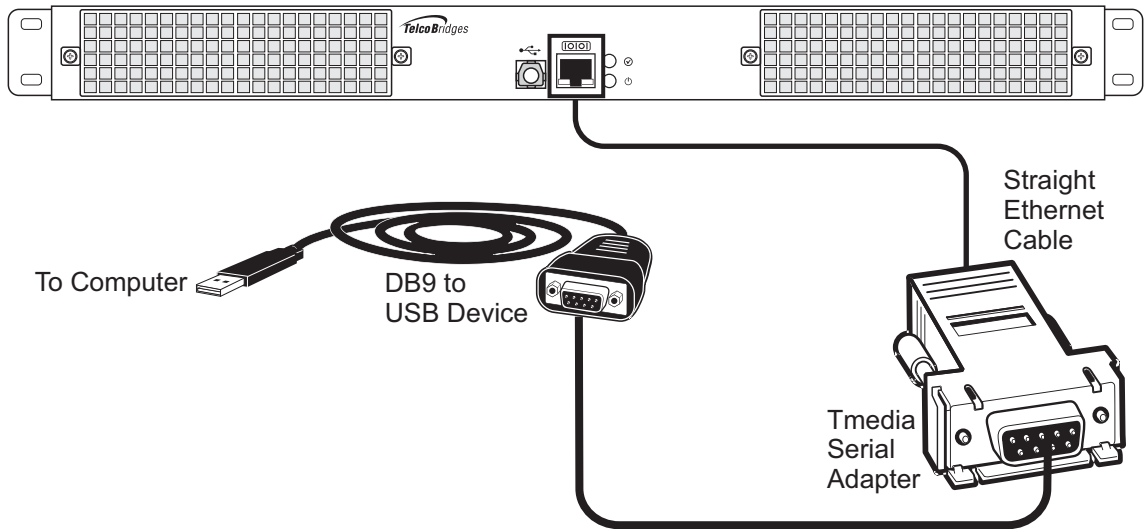

Figure 3.3 Conceptual View of a Serial Connection from the 3200 Series Gateway to a Computer
2. If your computer's serial port features a DB9 connector connect directly otherwise use the Tmedia serial adapter supplied with your 3200 series gateway. If your computer's serial port features a USB connector, you will need to provide a USB to DB9 adapter. Refer to Figure 3.3 on page 54.